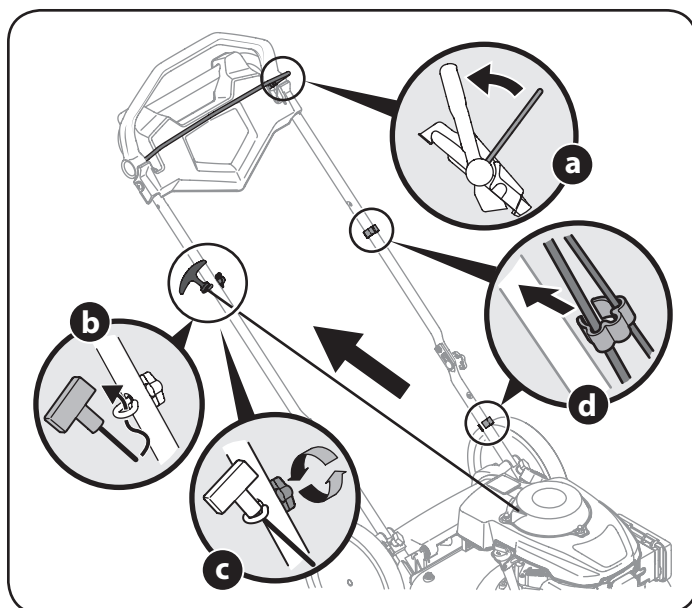

Figure 6
4. The rope guide is attached to the right side of the upper handle. Loosen the wing knob which secures the rope guide. Refer to Figure 6.
- Slowly pull starter rope handle from engine and slip starter rope into the rope guide. See Figure 6.
- Use cable clips provided to secure blade control and drive cables to lower handle as shown in Figure 6.